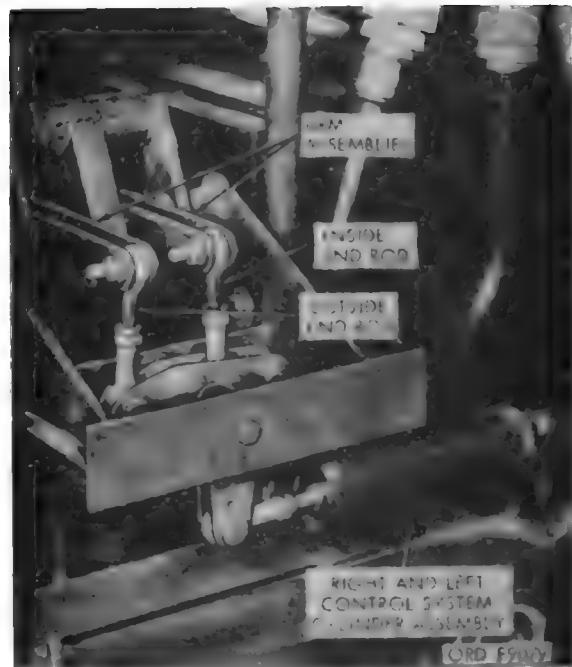

Figure 165. Arm assemblies, end rods, and control system cylinder assembly.
end rods (fig. 165) as in *g(4)* above.
(3) If the howitzer drifts right, adjust the outside end rods (fig. 165).
- (2) If control stick moves too far to the right or left, lengthen or shorten control cylinder system assembly (fig. 165) as in *g(4)* above.